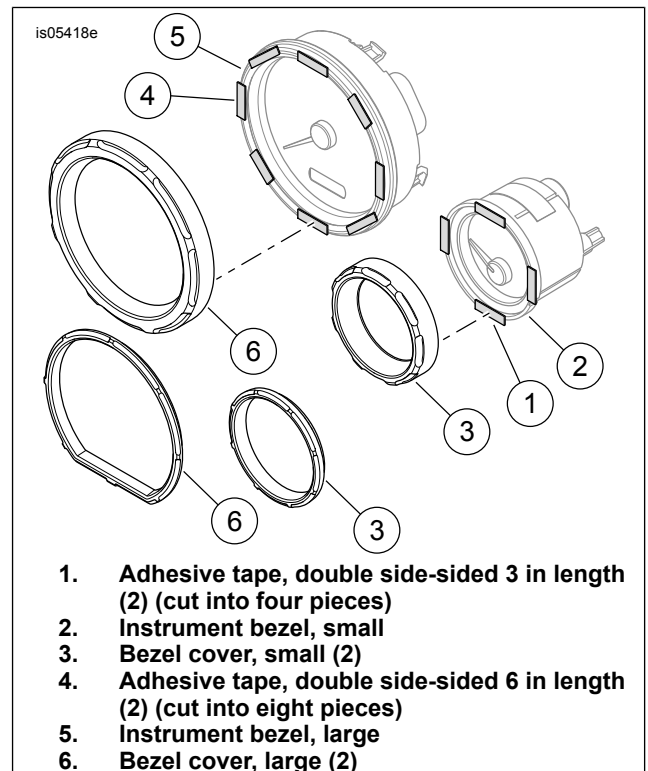

Figure 1. Trim Rings and Adhesive Tape
1. See Figure 1. Take a 76 mm (3 in) long piece of tape (1) from the kit. Cut tape into four equal pieces.
2. Remove the liner from one side of the tape and apply the tape (spaced equally) to the instrument bezel (2). Press firmly.
4. Position instrument bezel cover (3) over gauge. Press firmly into place.
1. See Figure 1. Take a 152 mm (6 in) long piece of tape (4) from the kit. Cut tape into eight equal pieces.